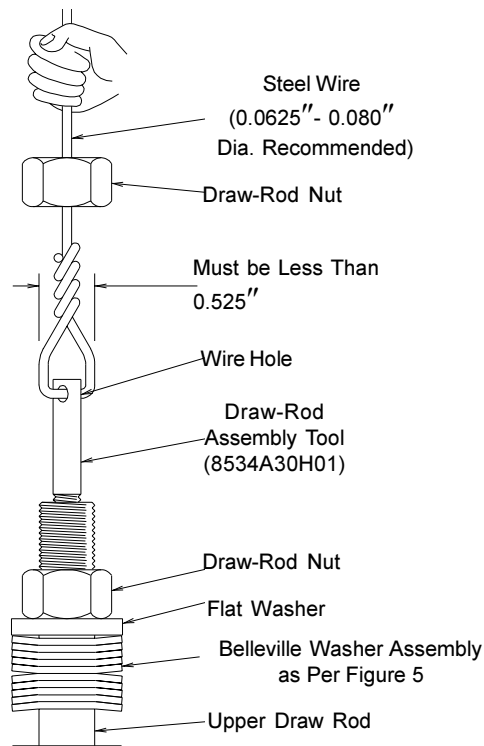

Figure 2: Assembly of Draw-Rod Nut Over the Draw Rod
3. Screw the draw-rod assembly tool into the tapped hole at the top end of the upper draw rod until it bottoms as shown in Figure 2. Through the wire hole provided, tie a 15 ft. long 16 or 14 gage wire to the top end of the draw-rod assembly tool as shown in Figure 2. Pass the other end of the wire through the socket and slide the socket down to engage the nut.
9. Through the wire hole provided, tie this end of the wire to the top end of the draw-rod assembly tool as shown in Figure 2.
10. While supporting the wire and the draw-rod assembly, slowly lower the bushing over the draw rod until the top end of the draw rod passes through all washers in the Belleville washer assembly as shown in Figure 2.
sembly, slide the draw-rod nut and the socket down over the wire and assembly tool, and hand tighten the nut on the draw rod as shown in Figure 2. Do not tighten the nut at this point. The purpose of screwing the nut on at this point is to prevent the draw rod from falling/sliding down. Remove the wire and the draw-rod assembly tool from the upper end of the draw rod.
3. Screw the draw-rod assembly tool into the tapped hole at the top end of the upper draw rod until it bottoms as shown in Figure 2. Through the wire hole provided, tie a 15 ft. long 16 or 14 gage steel wire to the top end of
the draw-rod assembly tool as shown in Figure 2. Pass the other end of the wire through the socket and slide the socket down to engage the nut.
10. While hanging the new bushing upright from the crane over the mounting area, and above the draw-rod assembly, insert the 15 ft. long 16 or 14 gage steel wire into the tube through the Belleville washer assembly until it comes out of the conductor tube at the bottom end. Through the hole provided, tie this end of the wire to the top end of draw-rod assembly tool as shown in Figure 2.
11. While supporting the wire and the draw-rod assembly, slowly lower the bushing over the draw rod until the top end of draw rod passes through all washers in the Belleville washer assembly as shown in Figure 2.
13. While firmly supporting the wire and the draw-rod assembly, slide the draw rod nut and the socket down over the wire and assembly tool, and hand tighten the nut on the draw rod as shown in Figure 2. Do not tighten the nut at this point.